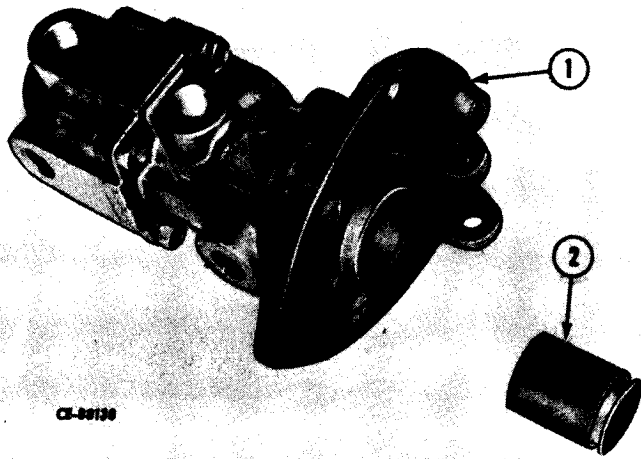

Figure 13-28
RIGHT TREADLE VALVE - Remove plunger (2, Fig. 13-28) from mounting plate (1).
Insert plunger (2, Fig. 13-28) into mounting plate (1) of right-hand treadle valve.